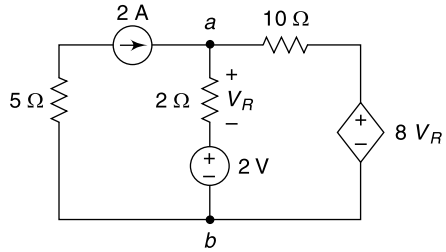

Fig. 4.141 Circuit of Ex. 4.110
4.110 Find the value of V_R in the circuit shown in Fig. 4.141.